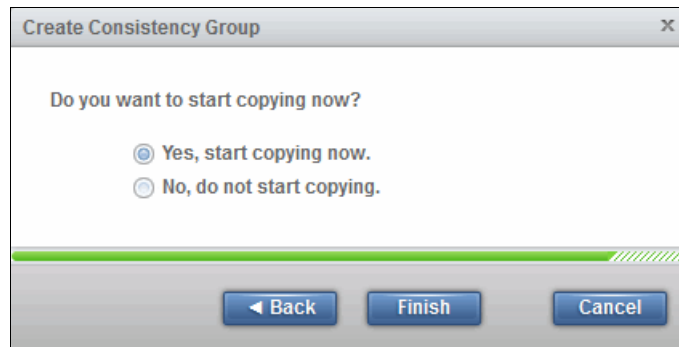

Figure 10-128 Remote Consistency group start copying option
12. In the next window, you are asked whether you want to start copying the volumes now, as shown in Figure 10-128.